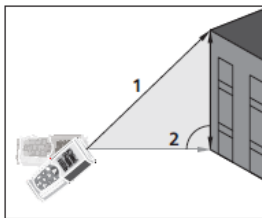

Fig. 7: Indirect 2-point measurement
3. Position the instrument in the highest point (1) of measurement (see Fig. 7) and press the  key to measure. The result appears on the first partial display. The symbol "" appears on the display with side "2" flashing
horizontally as possible (2) (see Fig. 7) and press the  key to measure. The result appears on the second partial display
5. The final value of the result (obtained as $\sqrt{(1)^2 - (2)^2}$) is shown in the resulting display